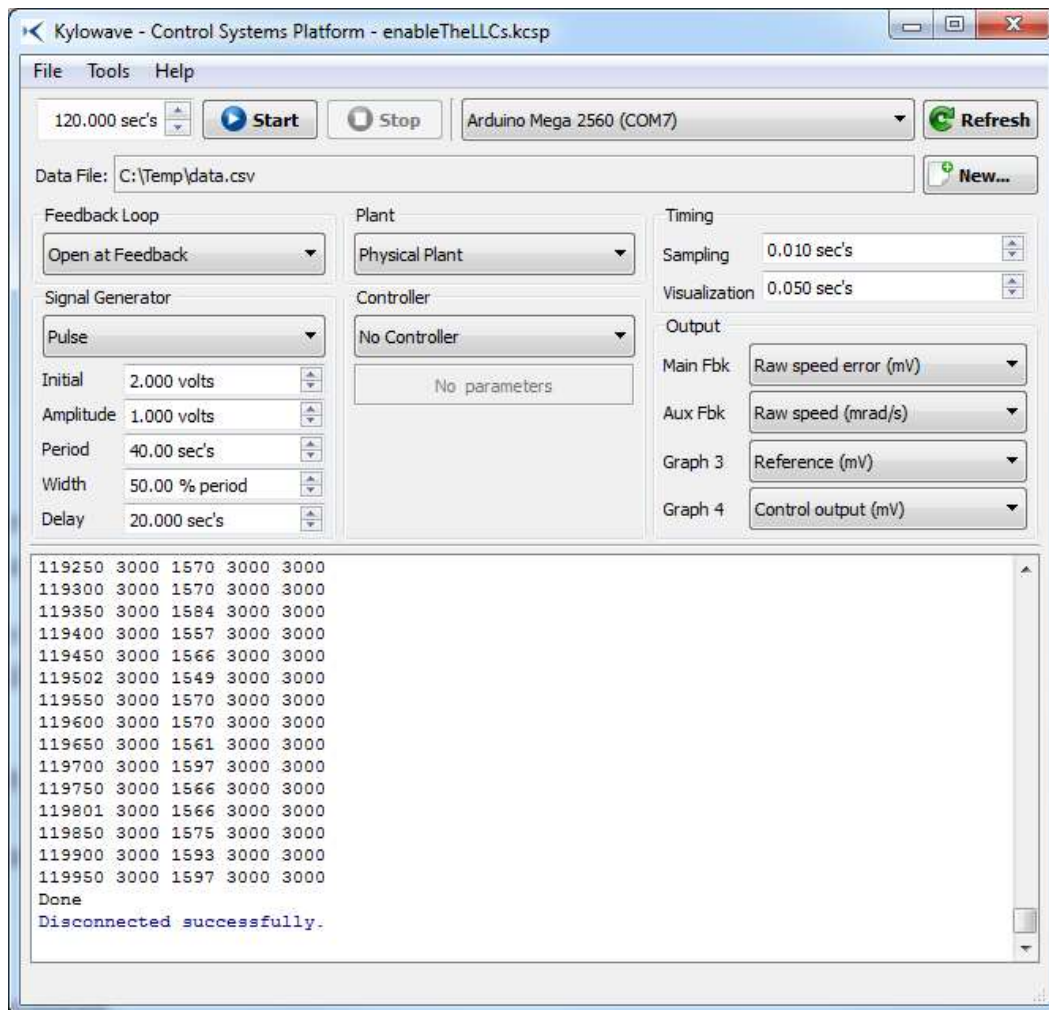

Figure II-1.4: K-CSP settings
- L-II-1.4. Apply the settings shown in Fig. II-1.4 with the following exceptions: